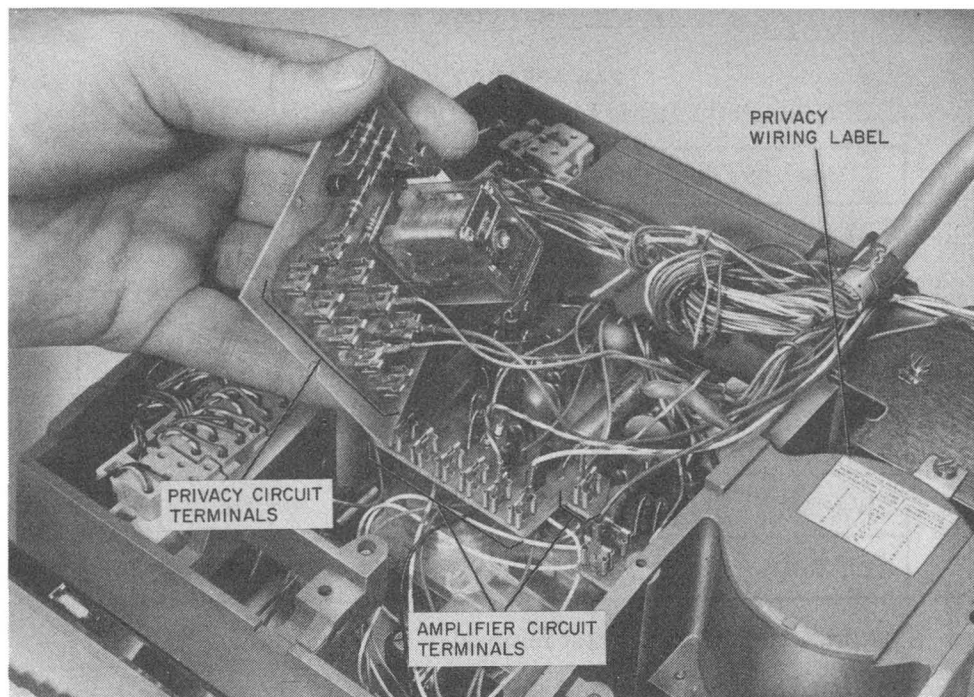

Fig. 13—Privacy Circuit Connections
- (1) Remove telephone set lower housing to obtain access to the amplifier printed wiring board.
- (2) Transfer leads from push-on terminals on amplifier board to those on privacy circuit board (Fig. 13). See Table D or wiring label on loudspeaker housing in set.